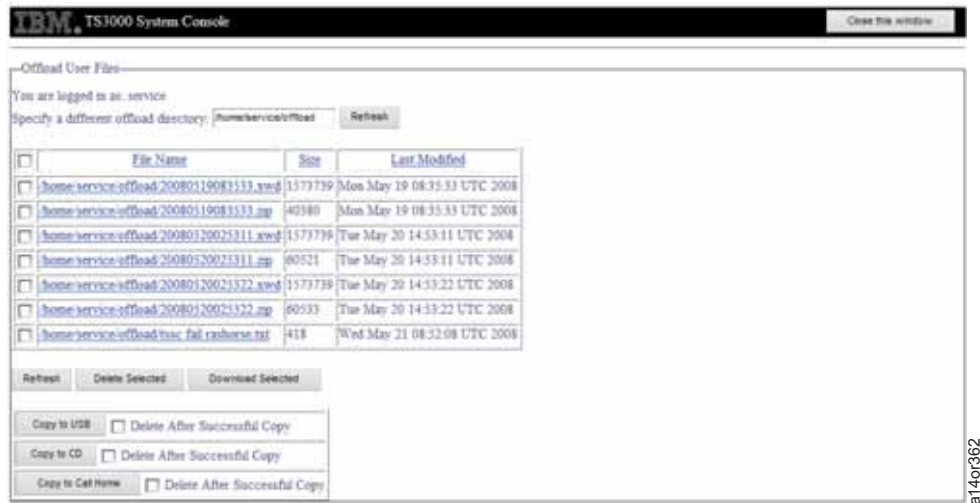

Figure 3-38. Offload User Files Menu Example. This example does not include Copy to Diskette.
3. Select **Offload User Files**. You see Figure 3-38 on page 3-31. The directory setting defaults to your user's offload directory. For the user **service**, you will be prompted for the directory you wish to download the data. The suggested directory is "/home/service/offload." You can change to a different directory by adding another name in the "Specify a different offload directory" field, and clicking the **Refresh** button next to that input area. You may also change directories by clicking a directory name in the file list field.
Refresh	Refresh the screen (Figure 3-38)